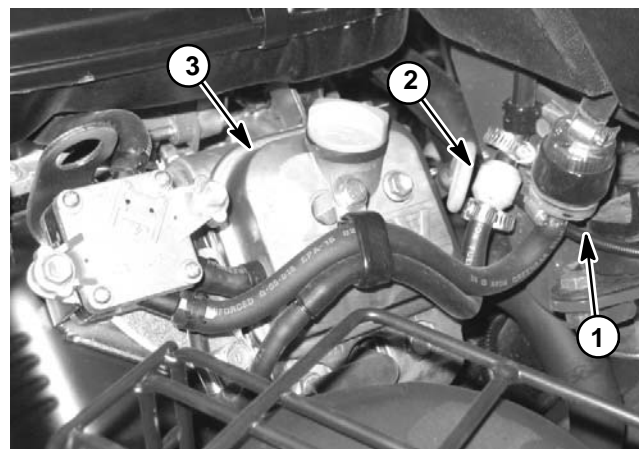

Figure 16
- A. On Greensmaster 3300 machines, disconnect hoses from fuel filter and check valve that are located next to rear cylinder head (Fig. 16). Also, remove cable tie that secures hose from carbon cannister to rear frame tube under tank mount plate.